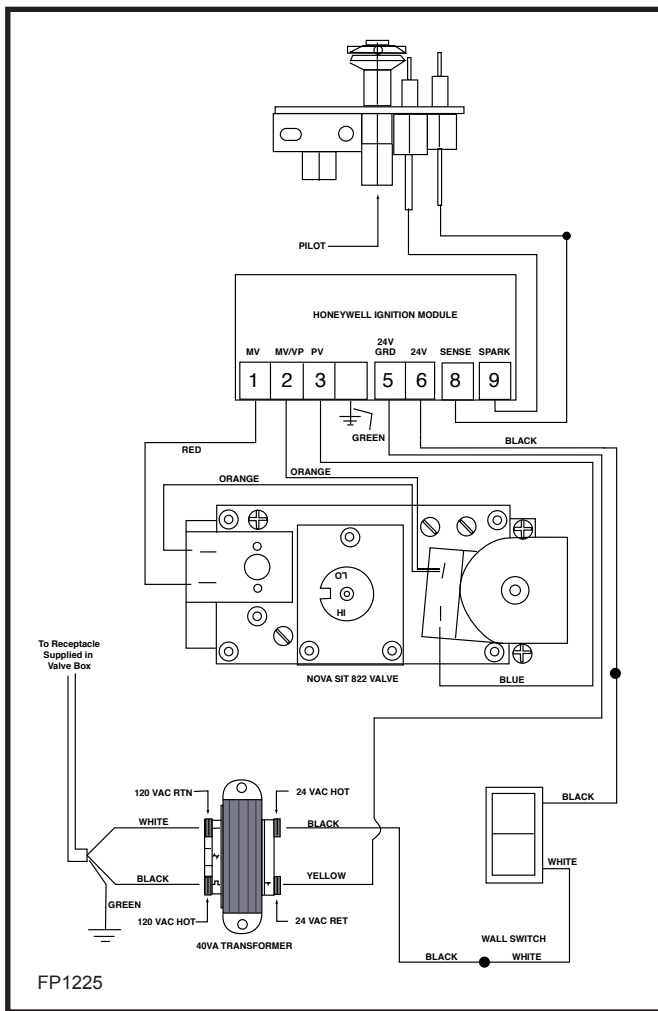

Fig. 10 Honeywell ignition module.
2. Attach the wire to the ON/OFF switch and install the switch into the receptacle box. (Fig. 10)